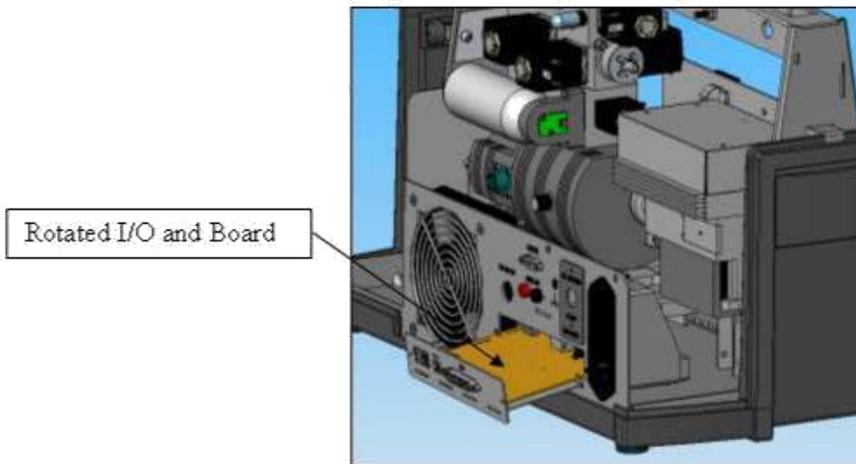

Figure 5: I/O Bracket Installation
9. Rotate the I/O bracket and board to approximately a 30° angle and insert into the leak detector (Figure 5: I/O Bracket Installation).